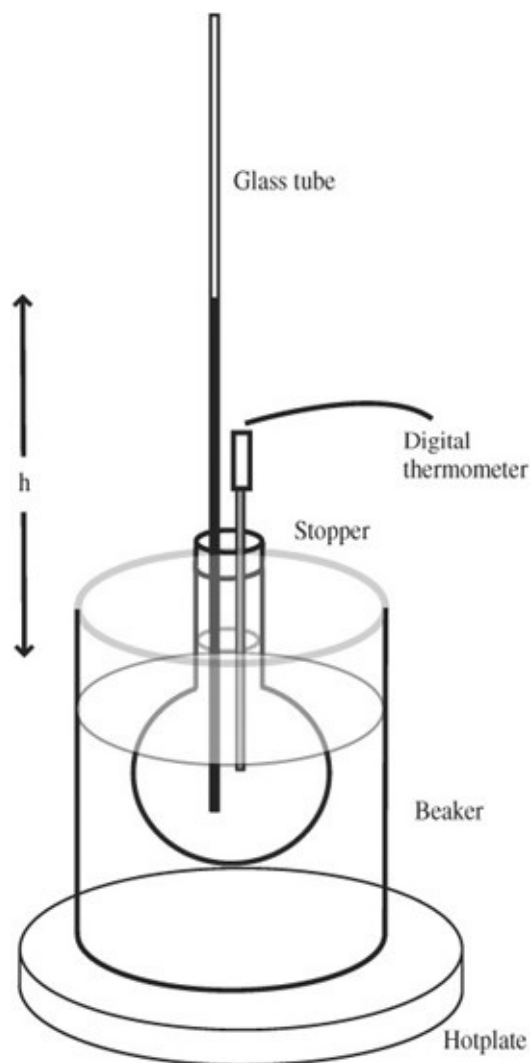

Figure 90-1 *Water thermometer.*
9. Turn on the hotplate. The apparatus for this experiment is pictured in Figure 90-1.